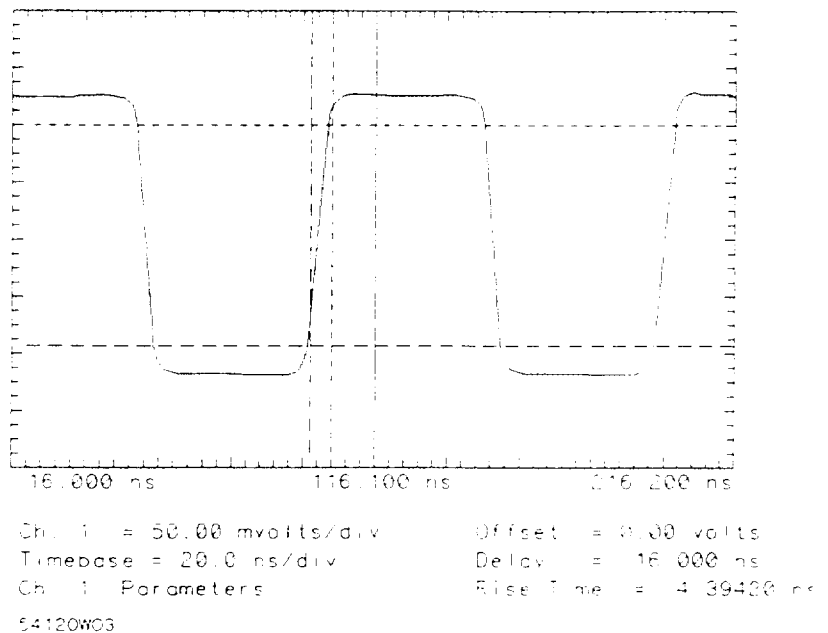

Figure 8-5. Risetime Measurement without Jitter (Averaged Mode)
- Notice that the risetime on the same square wave without jitter is approximately 4.4 ns. See figure 8-5.